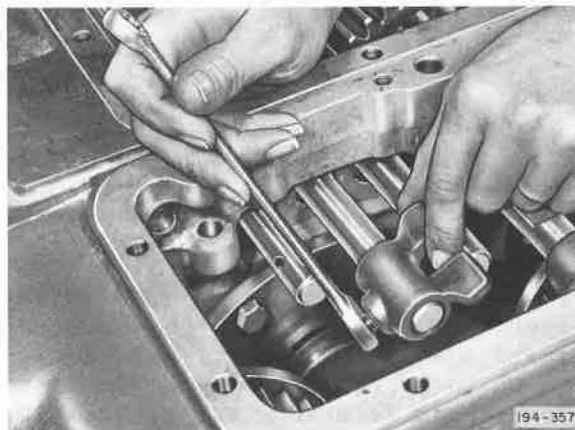

Figure 407. Installing Shifter and Setscrew
25. (Forward Controls Only) Install second/third speed shifter and fourth/fifth speed shifter onto their shift rails, and tighten setscrews to 35 to 45 lb. ft. torque. Refer to Torque and Tolerance Table, Item 10. See Figure 407.